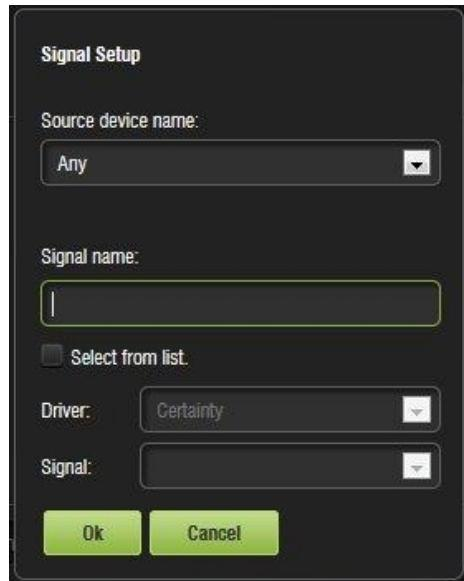

Figure 153: Signal Event Setup Window
- Click the Signal button and Click Add. The Signal Setup window will appear (Figure 153).